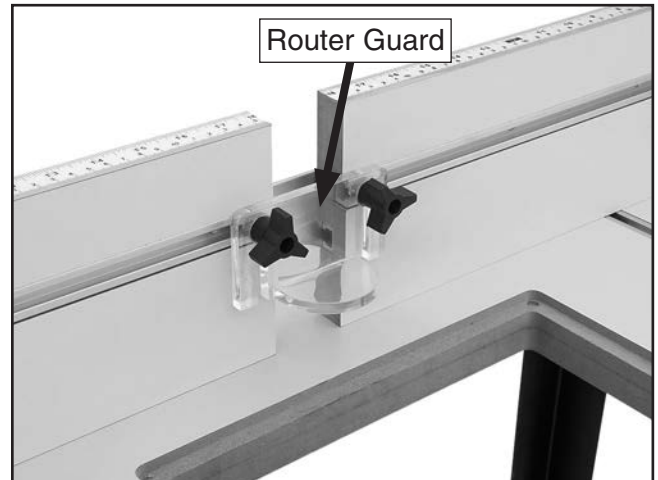

Figure 8. Router guard installed.
- Slide the heads of the (2) M6-1 x 25 T-bolts into the T-slots on the fence board faces, position them towards the center, slide the router guard over the bolts, then secure it in place with the (2) 6mm flat washers and M6-1 tri-knobs, as shown in **Figure 8**.